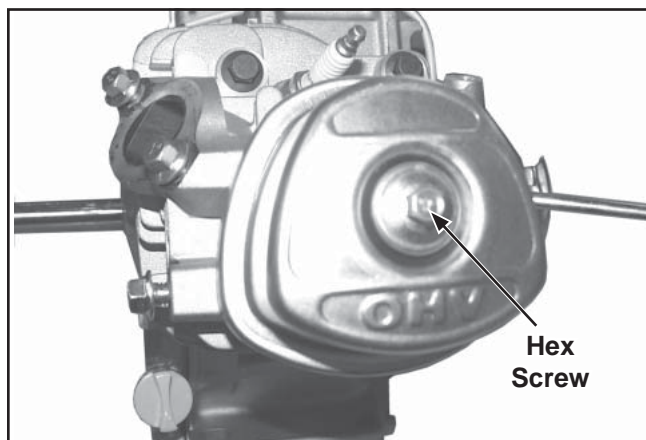

Figure 9-30. Valve Cover Removal.
1. Remove the hex flange screw and washer and remove the valve cover and gasket from the engine. See Figure 9-30. The breather assembly is inside the valve cover.